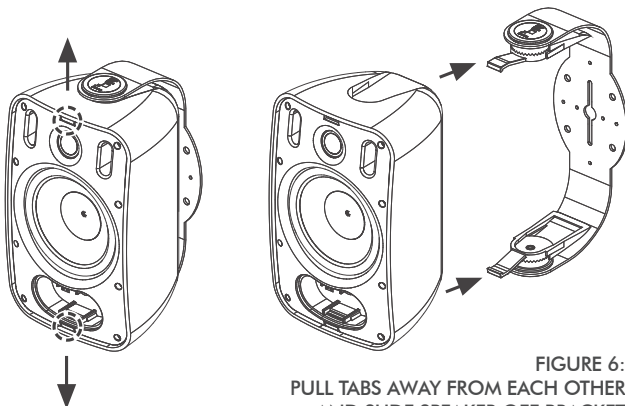

FIGURE 6:
1. Remove the speakers from the mounting brackets by pulling the tabs on the front panels away from each other (see figure 6).